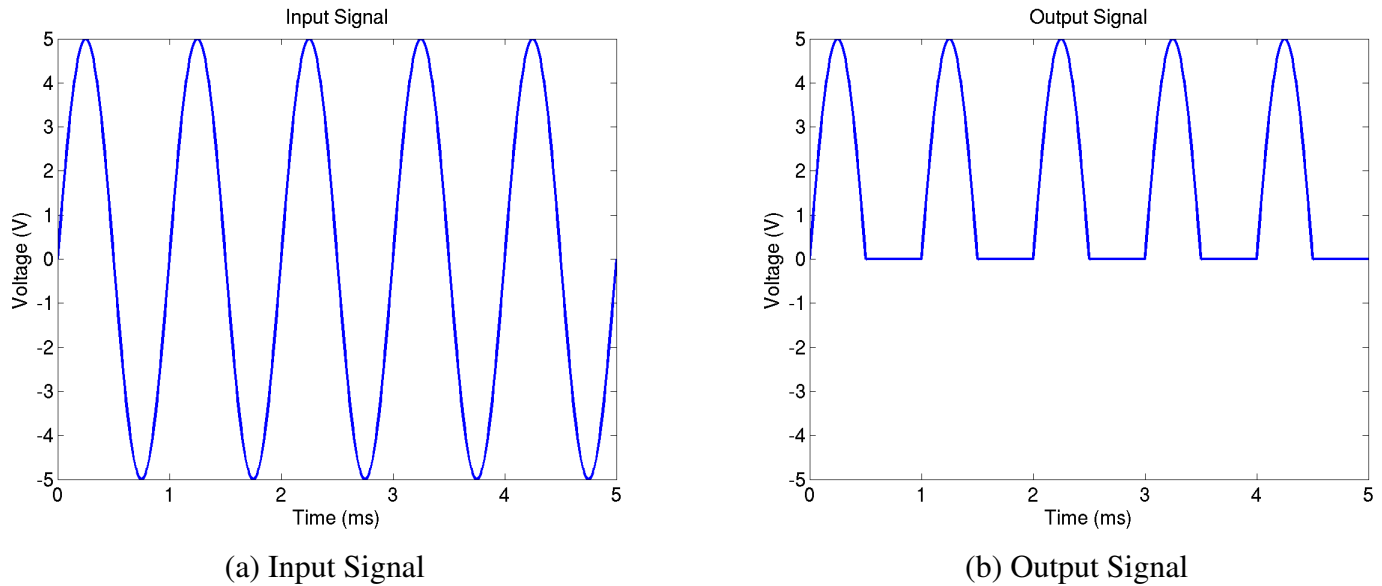
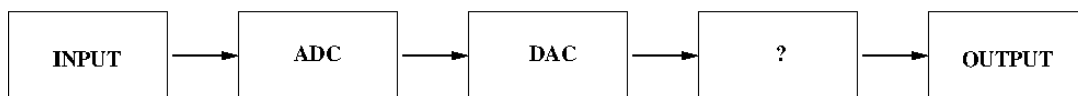

Figure 1.1: Input and Output Signals
Figure 1.2: Block Diagram
Another approach to half-wave rectification is to utilize the ADC/DAC process instead of diodes. We will work through this process in the following problem. Consider a sinusoidal signal $f(t) = 5 \sin(2000\pi t)$ V (Figure 1.1(a)) and a desired output signal (a half-wave rectified input signal) (Figure 1.1(b)):
- (a) Sketch the power spectra of input (Figure 1.1(a)) and output (Figure 1.1(b)) signals, labeling key features.¹ [10 points]
- (c) Given an RMS white noise voltage of 0.5 V (not shown in Figure 1.1(a)),
- (h) Design the “?” block in Figure 1.2 to achieve the desired output signal (Figure 1.1(b)). [5 points]